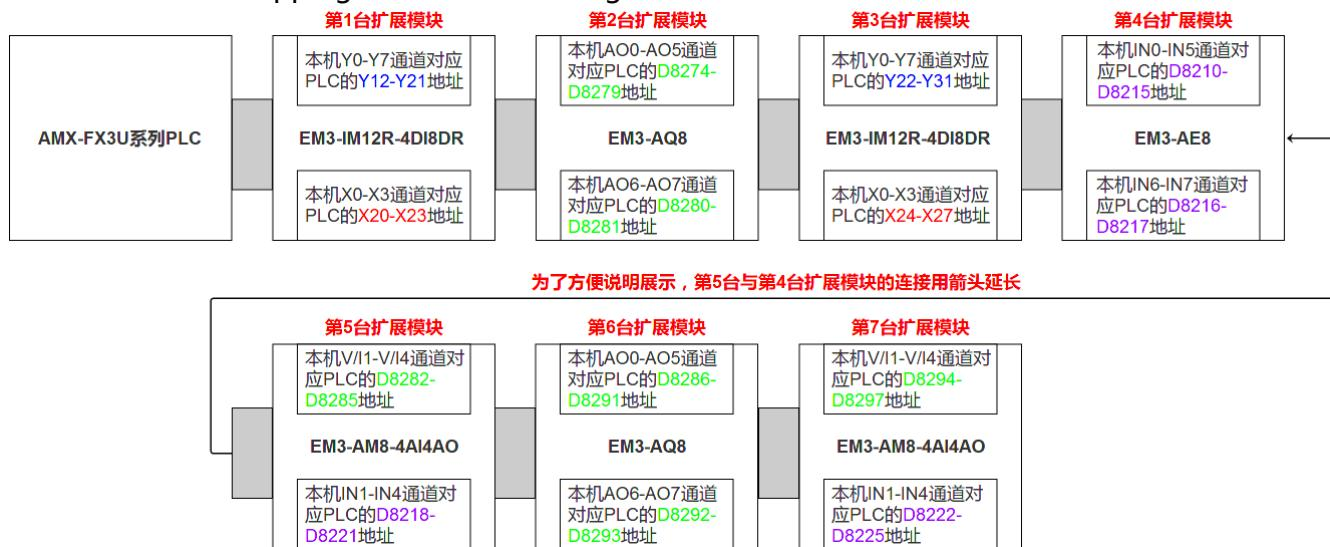

Figure 8.3.1 EM3 extension module address mapping case
The address mapping case is shown in Figure 8.3.1:
Note: For the analog output of EM3-AM8-4AI4AO module, the voltage/current of the same channel number uses the same PLC address. The value of the fifth expansion module in Figure 8.3.1, D8282 address, also determines the analog output size of V1 and I1
*1. Directly connected with the PLC expansion port for the first, refer to Figure 8.3.1